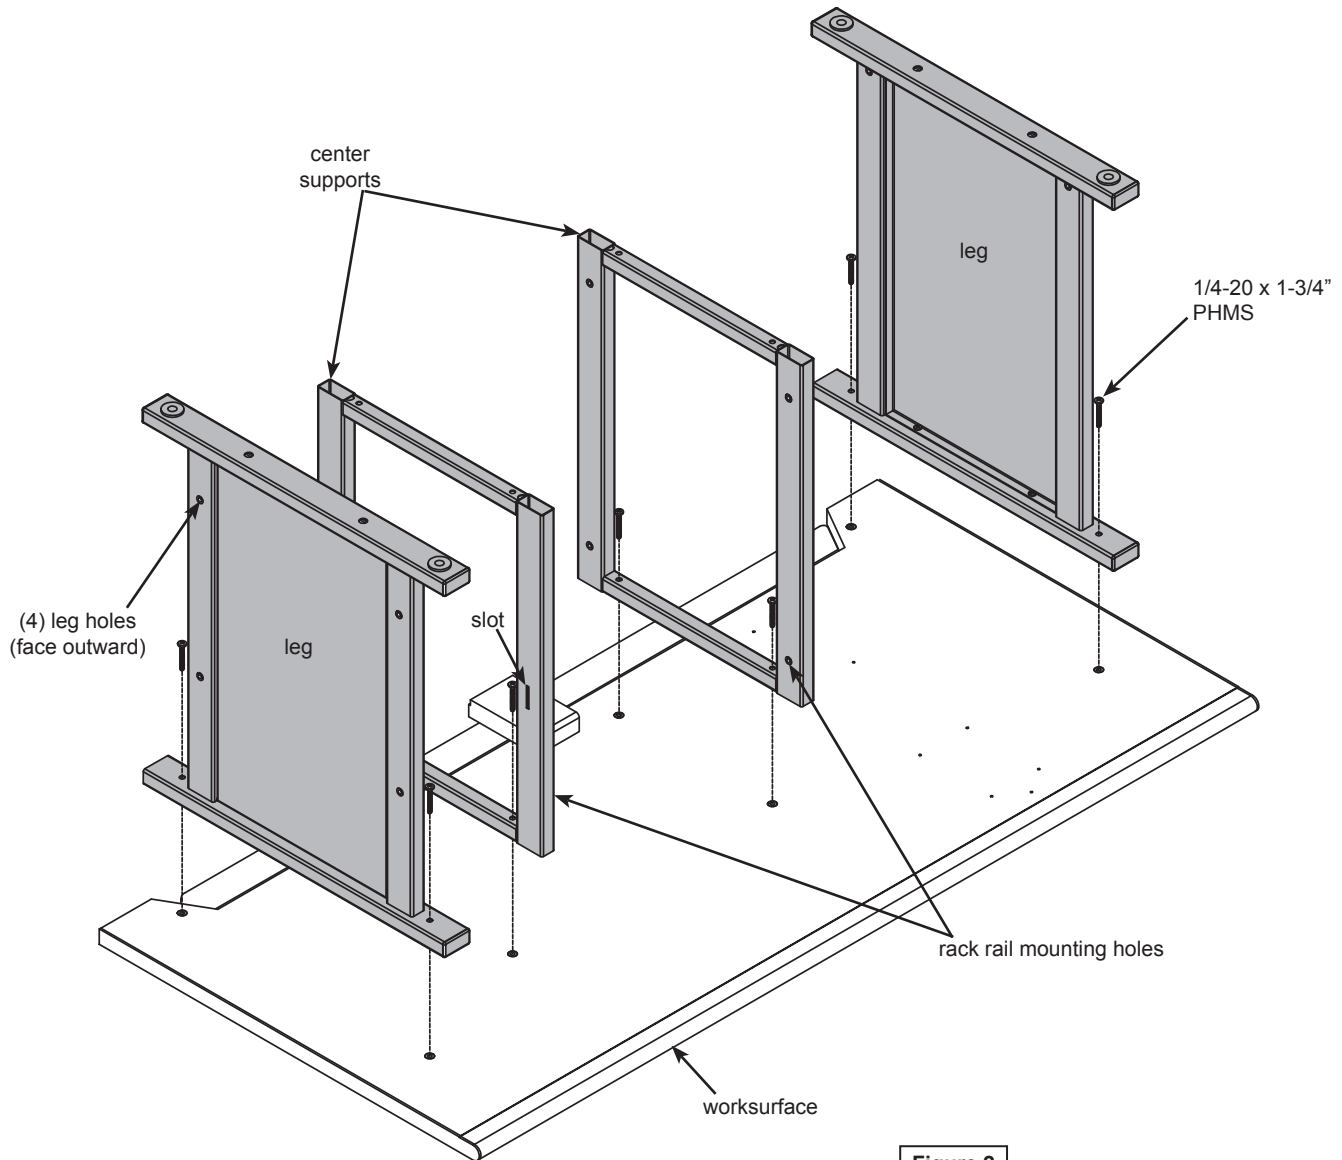

Figure 2
- A. Orient each leg with the cord channel mounting holes toward the back (flip-top side) and attach each with (2) 1/4-20 x 1-3/4" PHM screws. (Be sure the 4 leg holes and leg insert panels are facing outward.)
- B. Orient each center support with the rack rail mounting holes facing inward and attach each with (2) 1/4-20 x 1-3/4" PHM screws as shown in **Figure 2**. (*The slots on the supports will face the front of the desk.*)